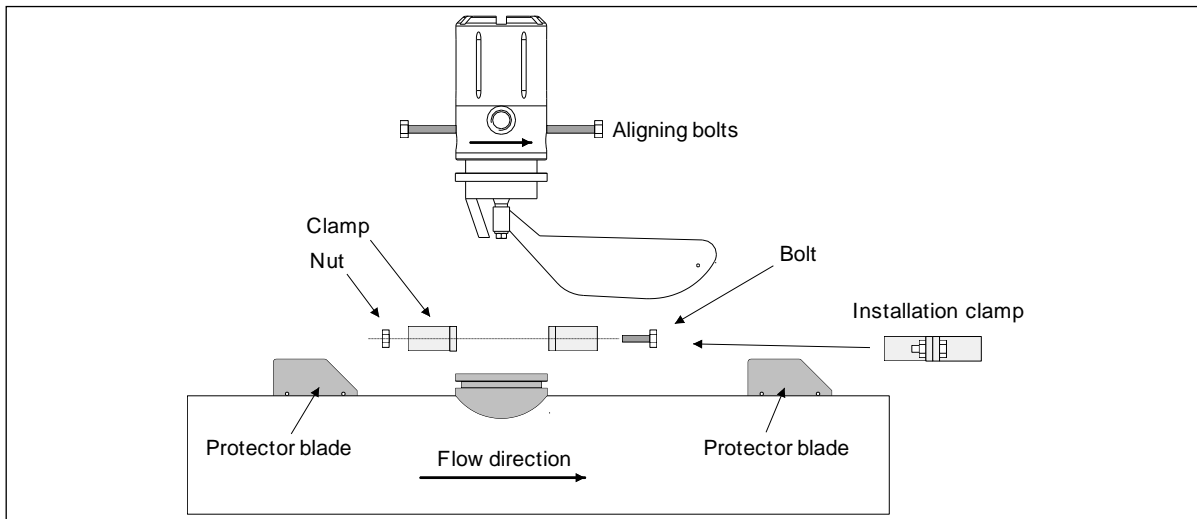

Figure 2.9. Installation of the sensor unit.
1. Insert the sensor through the saddle mounted on the process pipe. Keep the sensor blade parallel to the pipe, pointing downstream with the flow (See figure 2.9).